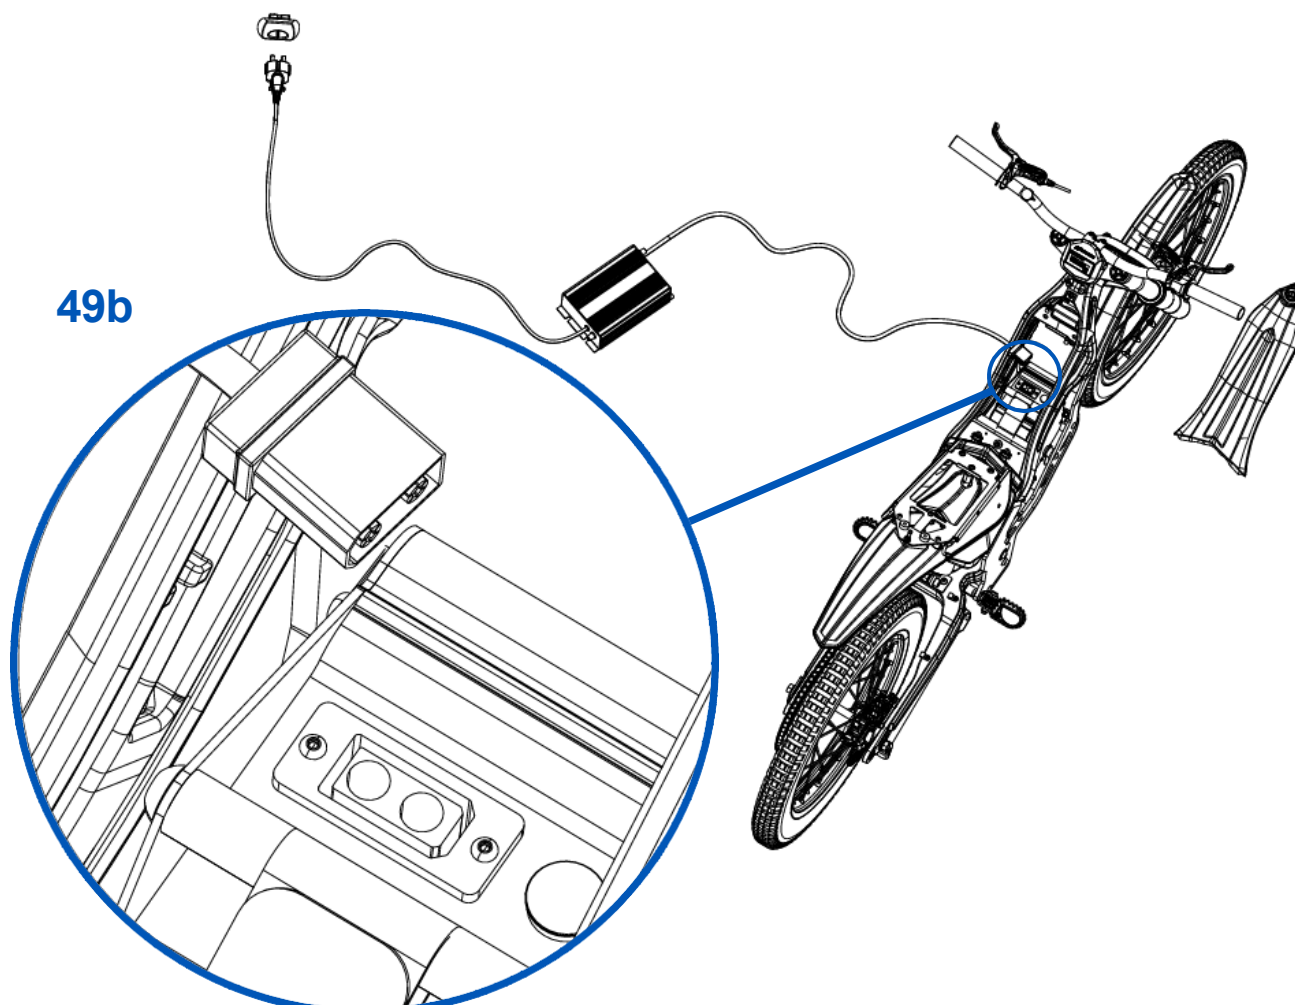

Fig. 49
- 6- Then, plug the charger cable into the domestic mains (Figure 49). At this point, LED 1 on the charger will be red and LED 2 will be green.